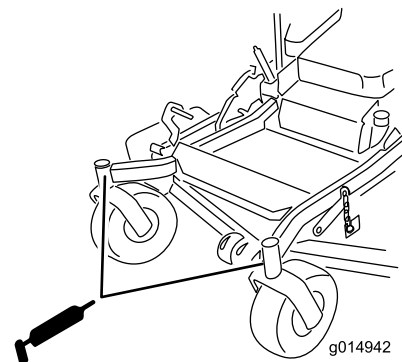

Figure 36
7. Remove the grease zerk in the hole. Install the hex plug and dust cap (Figure 36).